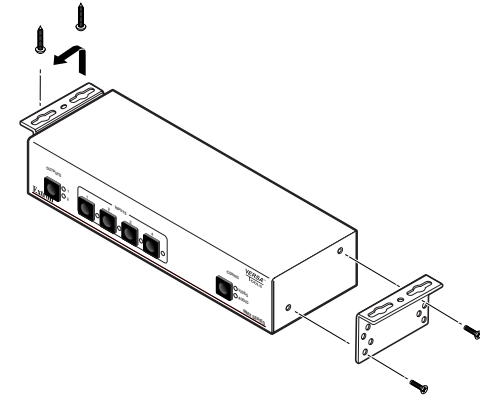

Figure 2-2 — Under-desk mounting the MMX
- 2 Attach the mounting brackets to the switcher with the machine screws provided (figure 2-2).